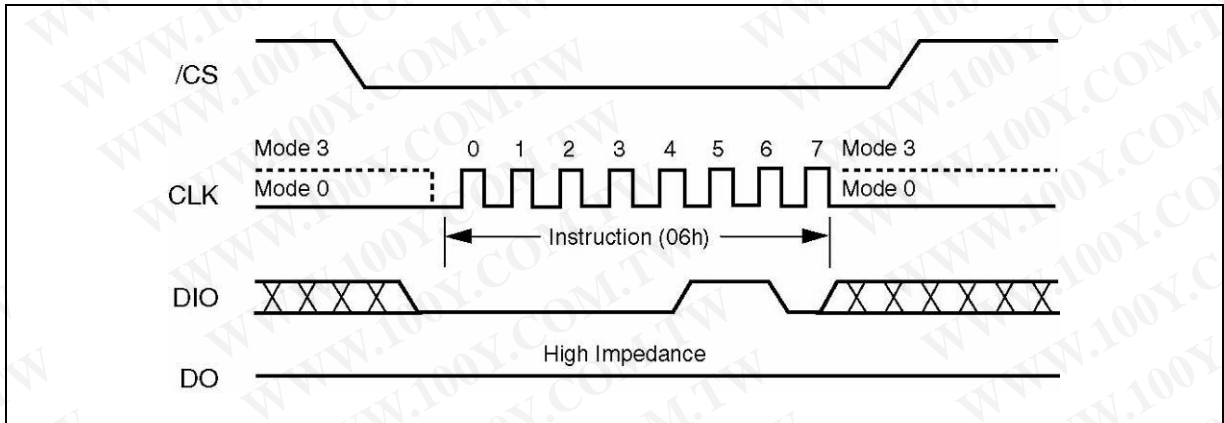

Figure 4. Write Enable Instruction Sequence Diagram
Instructions vary in length from a single byte to several bytes and may be followed by address bytes, data bytes, dummy bytes (don't care), and in some cases, a combination. Instructions are completed with the rising edge of edge /CS. Clock relative timing diagrams for each instruction are included in figures 4 through 24. All read instructions can be completed after any clocked bit. However, all instructions that Write, Program or Erase must complete on a byte boundary (CS driven high after a full 8-bits have been clocked) otherwise the instruction will be terminated. This feature further protects the device from inadvertent writes. Additionally, while the memory is being programmed or erased, or when the Status Register is being written, all instructions except for Read Status Register will be ignored until the program or erase cycle has completed.
The Write Enable instruction (Figure 4) sets the Write Enable Latch (WEL) bit in the Status Register to a 1. The WEL bit must be set prior to every Page Program, Sector Erase, Block Erase, Chip Erase and Write Status Register instruction. The Write Enable instruction is entered by driving /CS low, shifting the instruction code "06h" into the Data Input (DI) pin on the rising edge of CLK, and then driving /CS high.